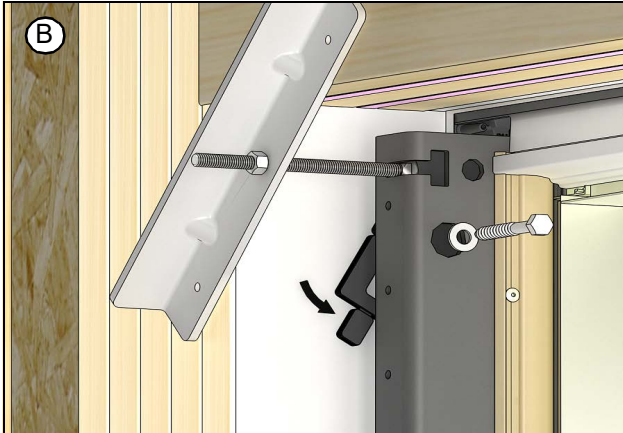

Figure 21
1. Pre-drill lag bolts using 1/4" (6) drill bit. Install provided 3/8" (10) x 3"(76) lag bolts and washers (**Kit B**) through the fabricated holes in the upright steel structure to fasten it to the R.O. See Figure 21. Rotate shims to clear brackets.